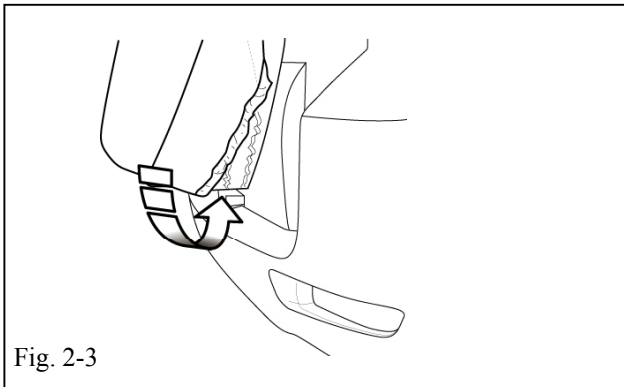

Fig. 2-3
(1) Pull the elastic edge over the bottom of the tire (Fig. 2-3.)